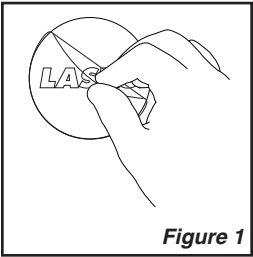

Figure 1
- 3. Remove plastic film from ornament and discard. (Figure 1)